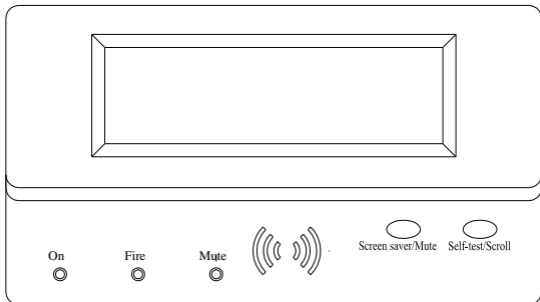

Fig. 1
4.1.1 Front panel of the repeater panel is shown in Fig. 1.